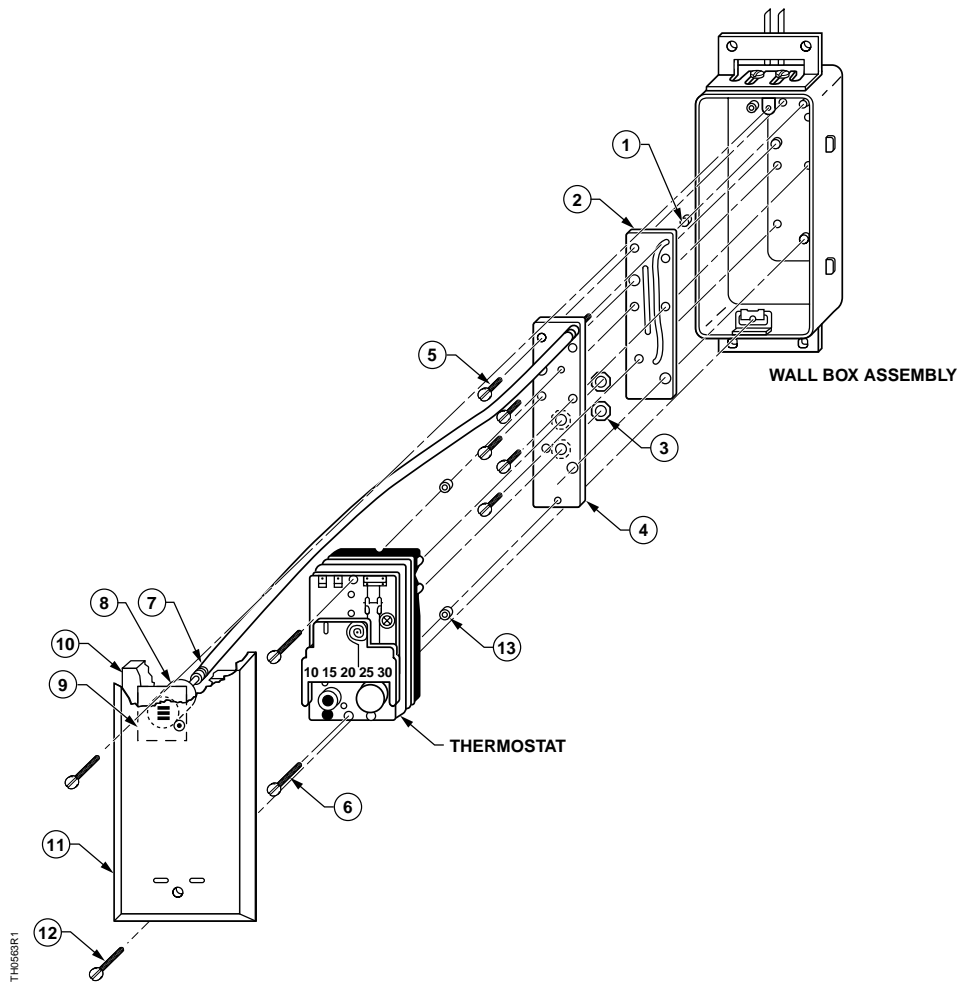

Figure 1. TH19X and Aspirator Wall Box
**NOTE:** The numbers found in parentheses in this procedure correspond to the numbers shown in *Figure 1*. See *Table 1* for a parts list of the Aspirator Adapter Kit.
1. Replace the supply air filter (1) with the new filter provided in the kit.
2. Make sure the gasket surface is clean. Place the new gasket (2) into the wall box.
3. Make sure the two O-rings (3) have been placed into the circular recesses located in the back of the new terminal plate (4). Place the terminal plate over the gasket (2) and fasten it securely to the wall box with the five screws (5) provided. The new plate is slightly longer than the old. Do not cut the insulation; it will compress when the plate is fastened.